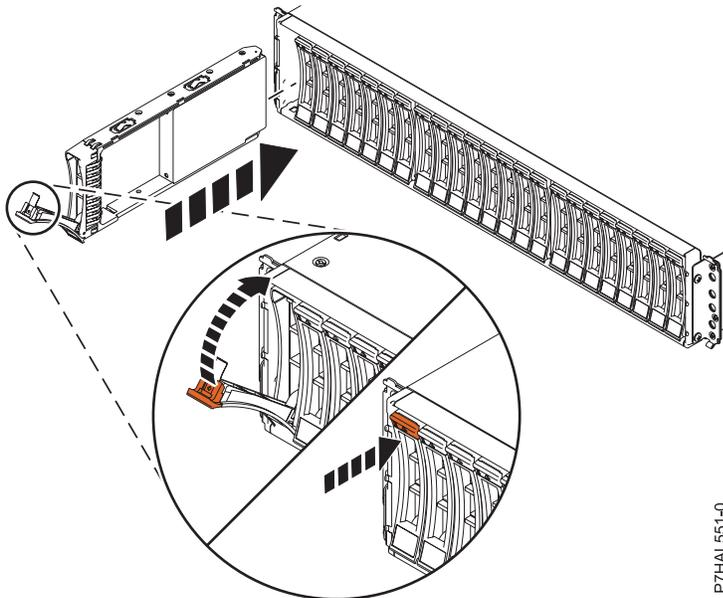

Figure 7. Installing the disk drive in the 58/87 disk drive enclosure
1. With the handle in the unlocked position, see Figure 7 on page 15, support the bottom of the drive as you align it with the guide rails in the expansion unit.